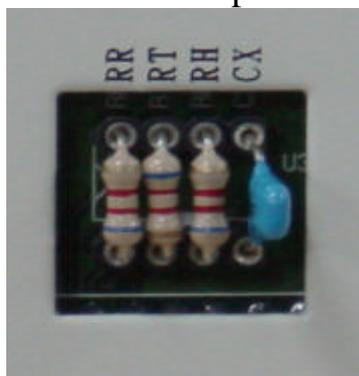

Figure 9
4.1 Example: Refer to Figure 9 for the way of connecting RR, RT, RH and CX pin.